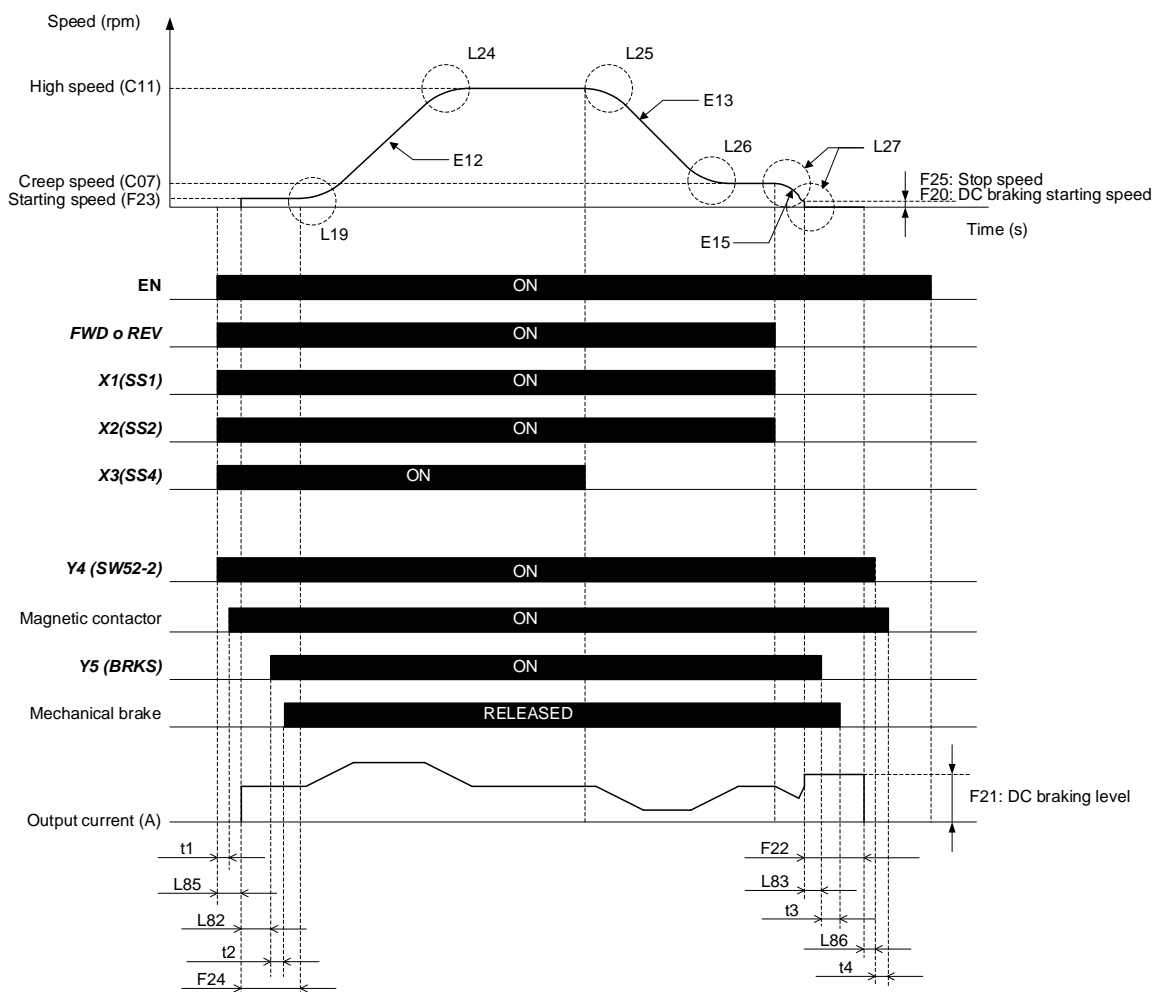

Figure 12.1: Open loop application time and signals sequence diagram.
Figure 12.1 shows a complete time diagram and signals sequence in case of open loop application. It shows a standard travel with a lift controlled by digital inputs with high and creep speed. Only induction motors can be controlled in open loop in a standard lift travel.
- ⤿ Figure 12.1 is a travel example where brake and main contactor signals are controlled by the inverter. If these signals are controlled by the lift controller, timing might differ.